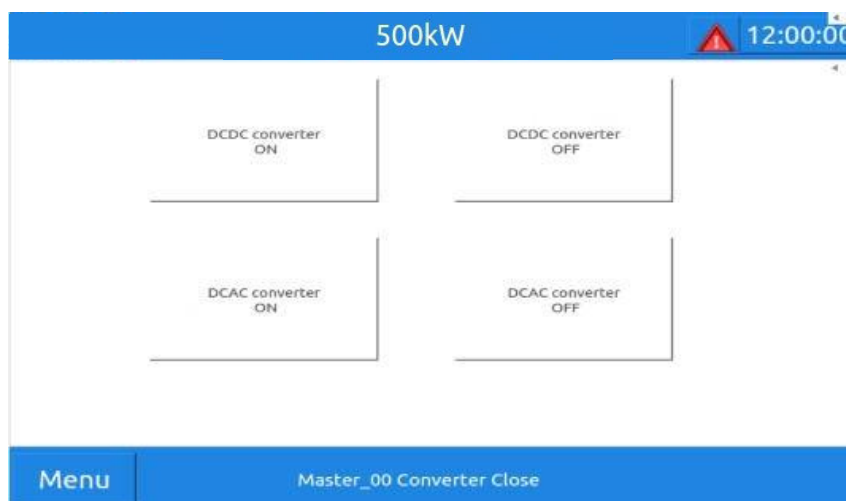

Figure 7-4 Startup and shutdown main interface
- (7) The converter is turned on. Click "Menu" → "Switch" → "DCAC Inverter On" in the lower left corner of the monitor (as shown in Figure 7-4). The inverter is soft-started. After the soft-start is completed, the AC contactor pull-in sound will be heard. At this time, the status of the converter displayed in the lower corner of the monitoring main interface will change to "converter off-grid discharge" or "converter off-grid discharge". "The inverter is connected to the grid for charging" or "The inverter is connected to the grid to discharge" . At this time, the inverter is running normally.
(1) Shutdown of the photovoltaic controller. Click "Menu" → "Switch" → "DCDC Converter Off" in the lower left corner of the monitor, click "DCDC" Converter Off", and the PV controller status displayed in the lower right corner of the monitoring main interface will have "Converter xMPPT" " becomes "standby". At this time, the PV controller stops working. (As shown in Figure 7-4 above)
(2) The converter is turned off. Click "Menu" → "Switch" → "DCAC Converter Off" in the lower left corner of the monitor. After clicking "DCAC Converter Off", you will hear the AC contactor disconnecting sound. At this time, the change displayed in the lower corner of the monitoring main interface The converter status will change to "Converter closed". At this point the converter stops working.